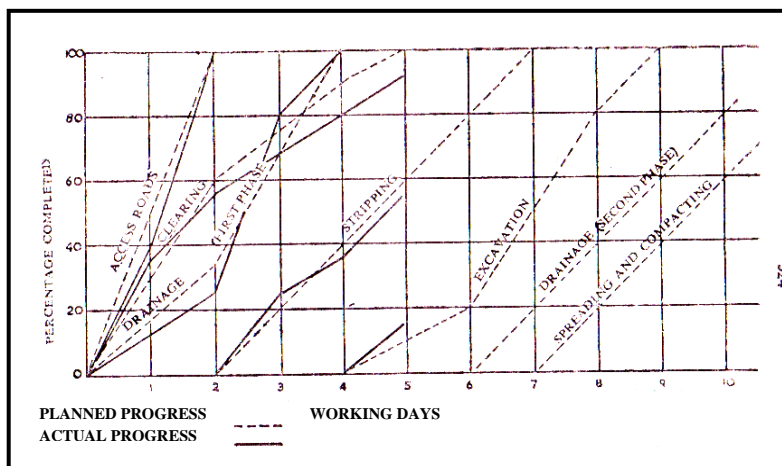

Figure 32-1— Example of Progress Chart (line Graph)
c. **Line Graph.** Simple line graphs are often used to show a comparison between progress and programme (See Figure 32.1). They become confusion if a number of lines gave a common origin, or if they cross each other.